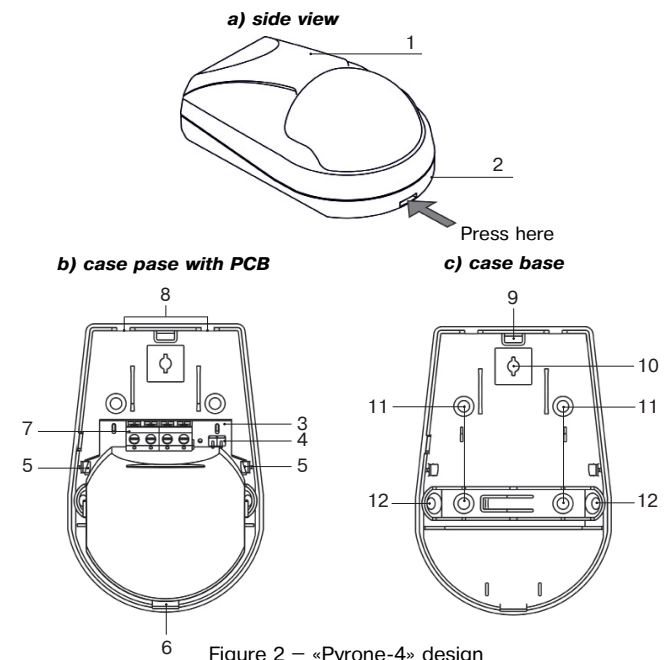

Figure 2 – «Pyrone-4» design
- Push the lock by a screw-driver through the hole on the lower side of the Detector base (See Figure 2) and put off the cover.